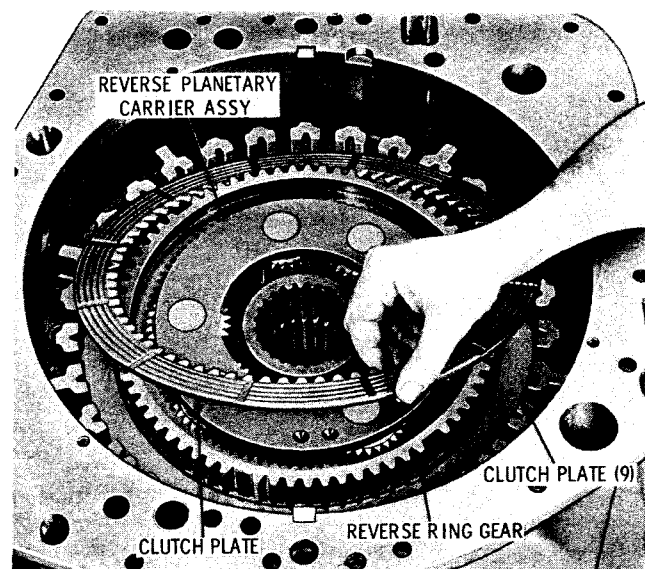

Fig. 7-26. Installing reverse clutch internal-splined plate (5631 models)
(3) Beginning with an internal-splined clutch plate, and alternating with external-splined plates, install two of each type plate (fig. 7-26). Install the reverse ring gear, counterbored side upward.
(4) Install the reverse planetary carrier assembly, open side upward (fig. 7-26). Install the remaining internal-splined clutch plate.